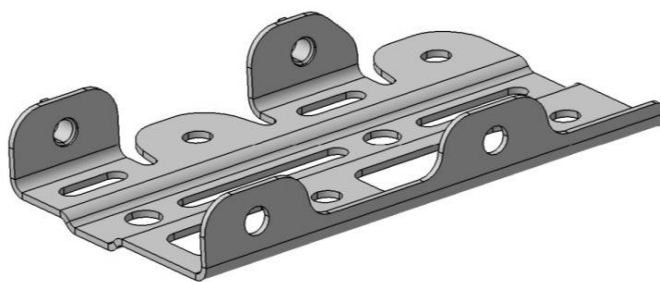

**Figure 7**
9. Fold the short sides of the acoustic cover over the sides of the compressor (Figure 7) and tightly secure the hook-and-loop material.